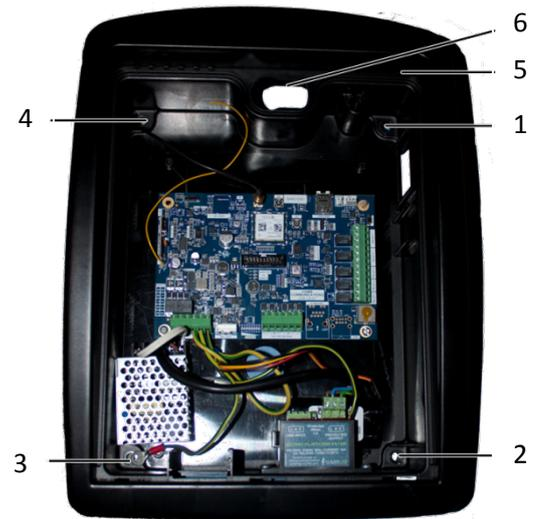

Figure 8: Remove Cover from Mounting Plate
11. Remove the cover (5) from the mounting plate (6) as follows (See Figure 8):
- b. Remove the housing (5) from the mounting plate (6).
Screw no (3) also earths the PCB (See Figure 8).